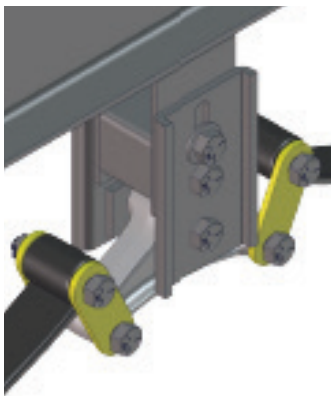
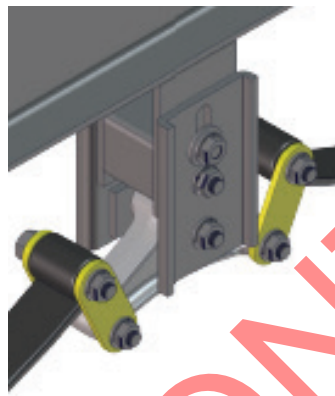

Fig.9
Fig.10
8. For tandem and triple axle installation, the process for installing the equalizer plates is the same as the outside four hangers with one exception: You must unbolt the equalizer and leaf springs before installing the Correct Track equalizer plates. The plates contain two circular holes and a vertical slot on the top. A horizontal hole is absent because there is no cam to install on the equalizer plates (**Fig.9, Fig.10 and Fig.11A**).